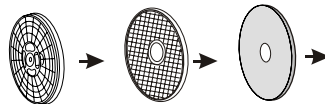

Figure 3
4. Align bracket as shown in Fig. 3 and fasten screws tightly.
After cleaning, assemble in the sequence of ' exhaust filter -filter-exhaust vent shroud', align the recesses in the center of filter with the projection in the center of drum and make sure that it is firmly inserted (as shown in figure 3).